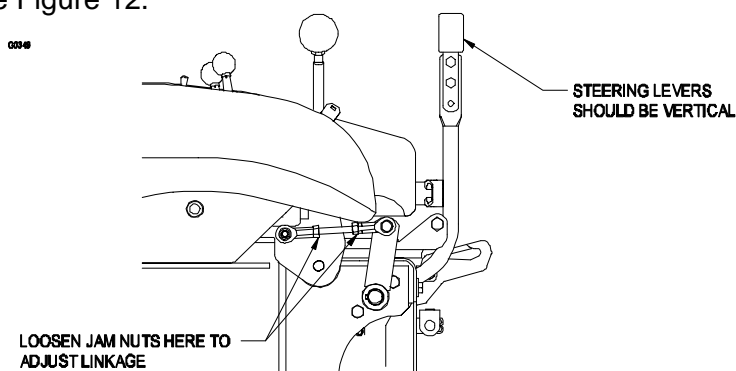

FIGURE 12
- b) Pull the speed control lever completely back to the neutral position. The two steering levers should be straight up and down (vertical). If necessary, adjust steering levers by changing the length of the link between the speed control lever and the control arm on the end of the steering control shaft. See Figure 12.